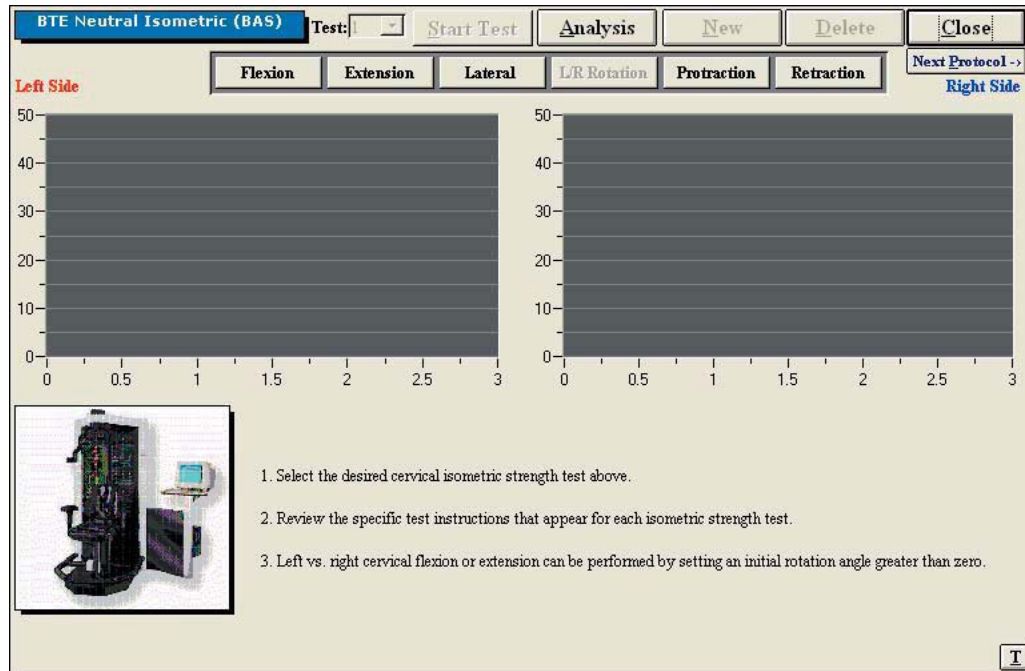

Figure 6-78. Cervical Strength Main Screen
Step 2. Once a test has been assigned to a client, highlight the test name in the right box and click **Perform Test** to bring up the testing screen (Figure 6-78).